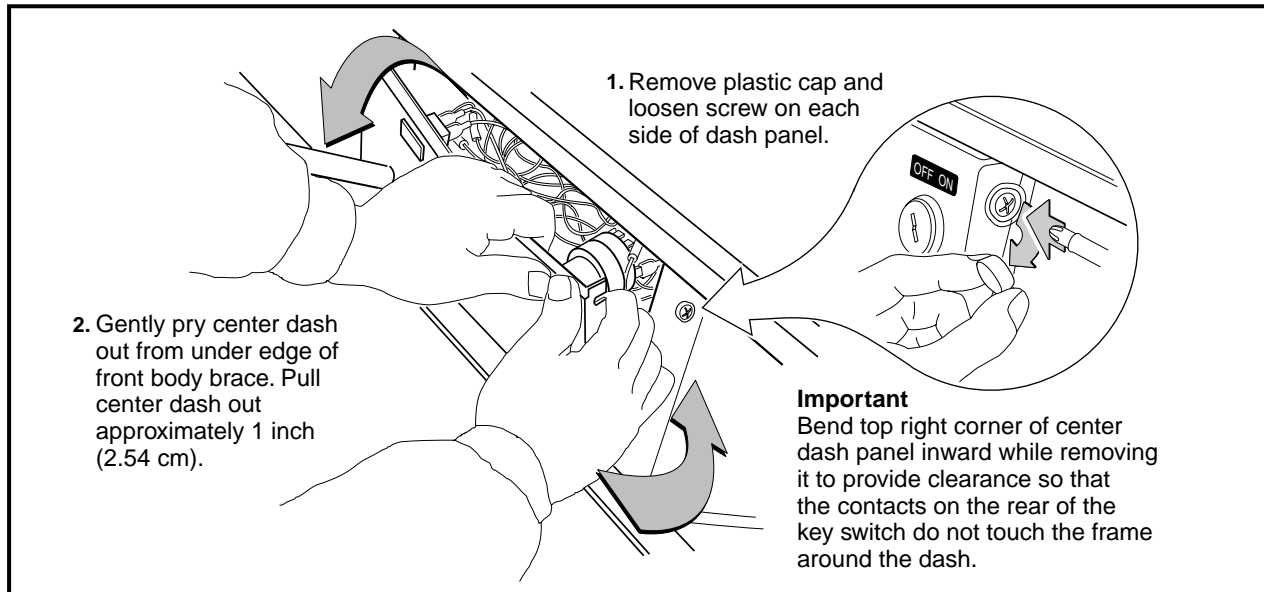

Figure 12-18 Center Dash Panel Removal
- 2.4. Pull center dash out approximately one inch from the frame and then bend the top right corner of the center dash inward while pulling the top of the panel out and down (**Figure 12-18, Page 12-16**). **See following NOTE.**